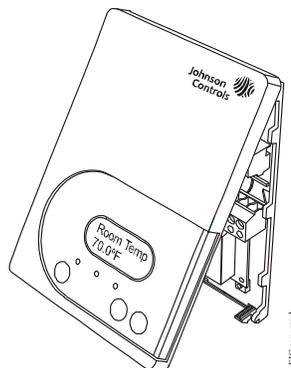

Figure 1: Removing the Thermostat Controller Cover
2. Pull the bottom edge of the thermostat controller cover and open the thermostat controller as illustrated in Figure 1.